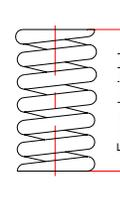

Fig. 3
- Remove the safety springs from the discharge valve assembly. Examine springs for deformation and cracking. Test springs for height in accordance with Table-2 (Fig 3). Replace as required.